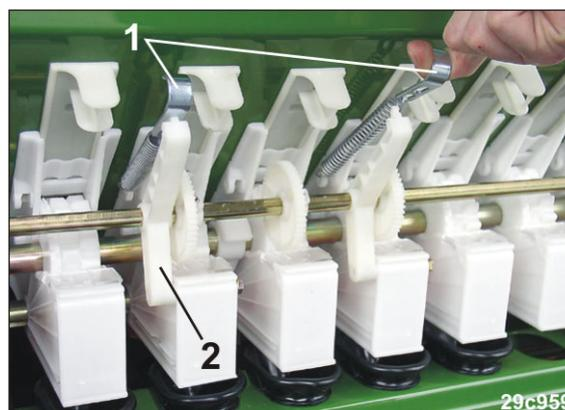

Fig. 217
2. Remove the tension springs (Fig. 217/1) on the lay shaft bearing (Fig. 217/2).